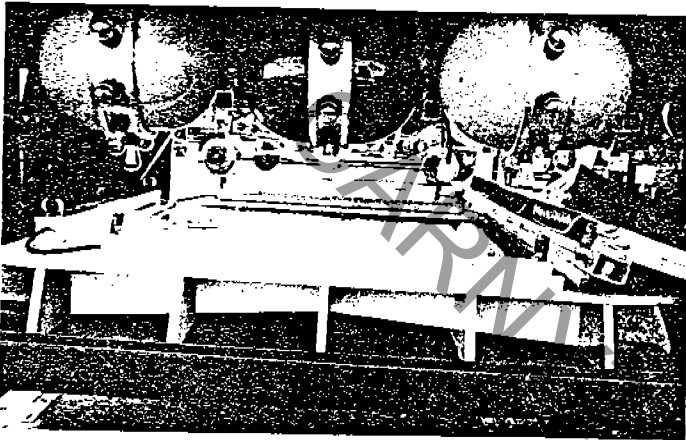

Fig. 43
- b. Be sure that the silver rings around the plastic bubbles are stored in a vertical position. (Fig. 43)